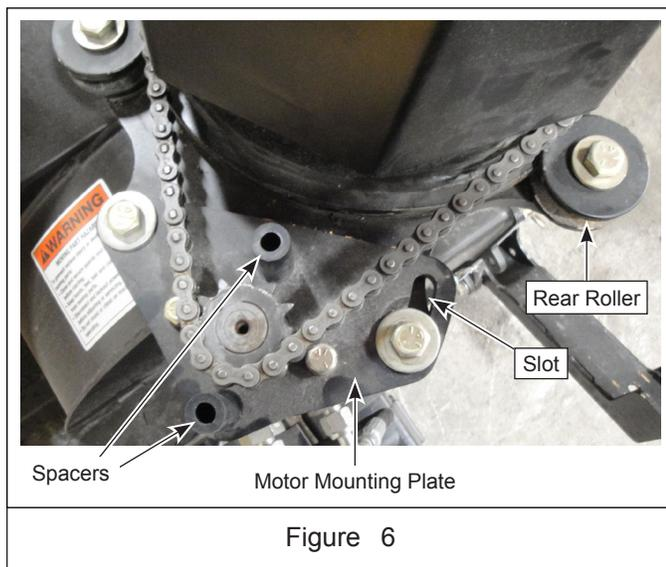

Figure 6
11. Tighten two 1/2" hex head capscrews to secure motor mounting plate to impeller housing flange. See Figure 6.
12. Install two spacers and chain guard on motor mounting plate and secure with two 3/8-16 x 3" hex head capscrews, lock washers and flat washers. See Figures 6 and 7.